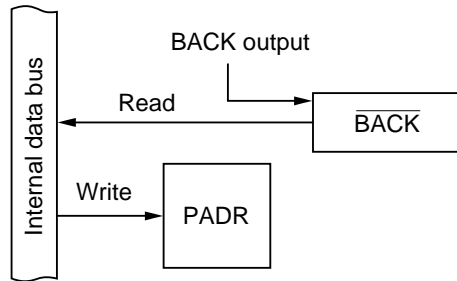

Figure 10-66 $\overline{\text{BACK}}$ Output Pin (Modes 1 to 6)
(4) $\overline{\text{BACK}}$ Pin (PA_6 : Modes 1 to 6): Figure 10-66 shows a block diagram illustrating the $\overline{\text{BACK}}$ function. Table 10-49 indicates register read/write data. When PA_6 is used for $\overline{\text{BACK}}$ output, the value written in the port A data register (PADR) has no effect. When read, PADR returns an undetermined value.